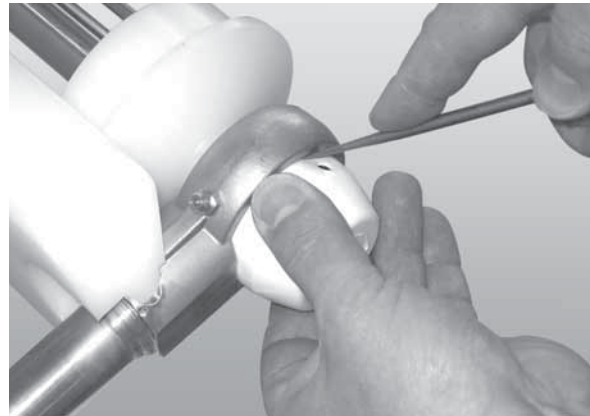

Figure 75
- Remove the bearing cover (Figure 75, item 1).